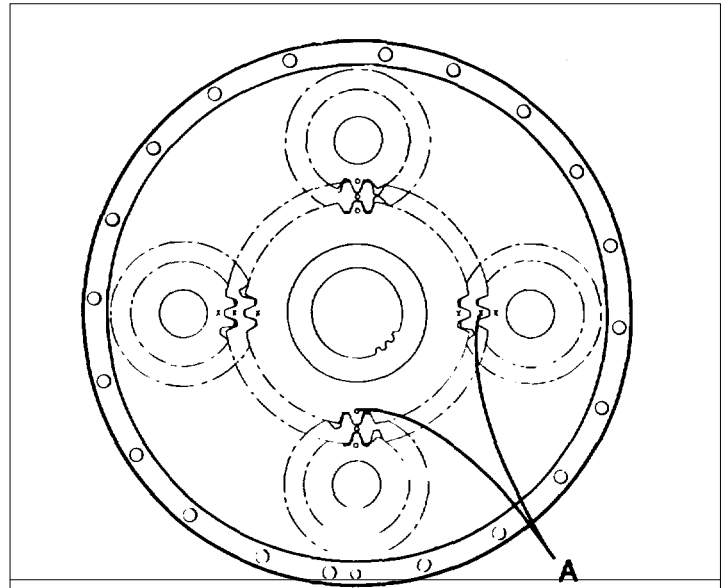

Fig. 3
- (a) Install a new seal (3) in the side housing gear (28) hub. The seal must be installed with the lip in. Coat the O. D. of the seal with Permatex before installation.
- (b) Press bearing (2) in on top of the seal, with the shielded side in.
- (c) Install spacer (27) through seal (3) until it contacts bearing (2). There is a wear sleeve on one end of the spacer, for the seal lip to ride on.
- (d) Install 'O' ring (25) in the end of spacer (27). Install spacer (24) and bearing (23) in the other end of the hub.
- (e) Install the side housing gear (28) on the shaft (1). Shim between the inner bearing and the side housing spacer with 1C5 shims, to align the drum gear for full tooth contact between mating gears.
- (g) Install bearing (5) in the housing bore. Install the housing over the side housing gear hub.
- (h) Install drive gear (26) and snap ring (15).
- (i) Install bearing (6) on each end of each cluster gear (8). Install the four cluster gears. The gears must be installed with the match marks on the drive gear, driven gear, and cluster gear in line (see A in Fig. 3).
- (j) Install driven gear (22), making sure the match marks line up. Install the bearing (16) and snap ring (17) on the driven gear.
- (k) Install end cap (14) over each bearing. Permatex both sides of the gasket, then install the end cap. Tighten the capscrews (13) to 17 ft/lb. torque.
- (l) Install 'O'ring (11) in the groove in the planetary cover (10). Install the cover on the housing. Tighten the mounting capscrews to 50 ft/lb. torque.
- (m) Install seal (18) in the hub of the planetary cover with the lip in.
- (n) Install the spacer (19) over the shaft.
- (a) Set one shoe in place over brake anchor rod. Set cylinder housing in place over shoe lug. Install anchor pin (1). Install rod end and capscrew to retain the pin.
- (b) Install other band section. Install adjusting bolt, spacer, and nut (9). Install standoff spring (10).
- (c) Install springs (2) between spring seats on each brake band. Install and tighten tie bolt until rollpin (7) may be installed. Install rollpin. Drive rollpin in until it is flush with housing side of bracket.
- (e) Install push rod seat (3) and push rod (6).
- (f) Install cylinder (5). Install cylinder mounting capscrews (4). Tighten capscrews.
2.4 Cylinder Repair (Fig. 3)
- (c) Remove capscrews (5) which connect brake cylinder to bracket. Remove cylinder. Clean outside of cylinder with kerosene or diesel fuel.
- (d) Remove piston (4) from cylinder. Remove snap ring (1) from cylinder. Remove seal (2) from cylinder.
- (g) Install cylinder over push rod. Install and tighten mounting capscrews (5). (h) Connect hose to brake cylinder.